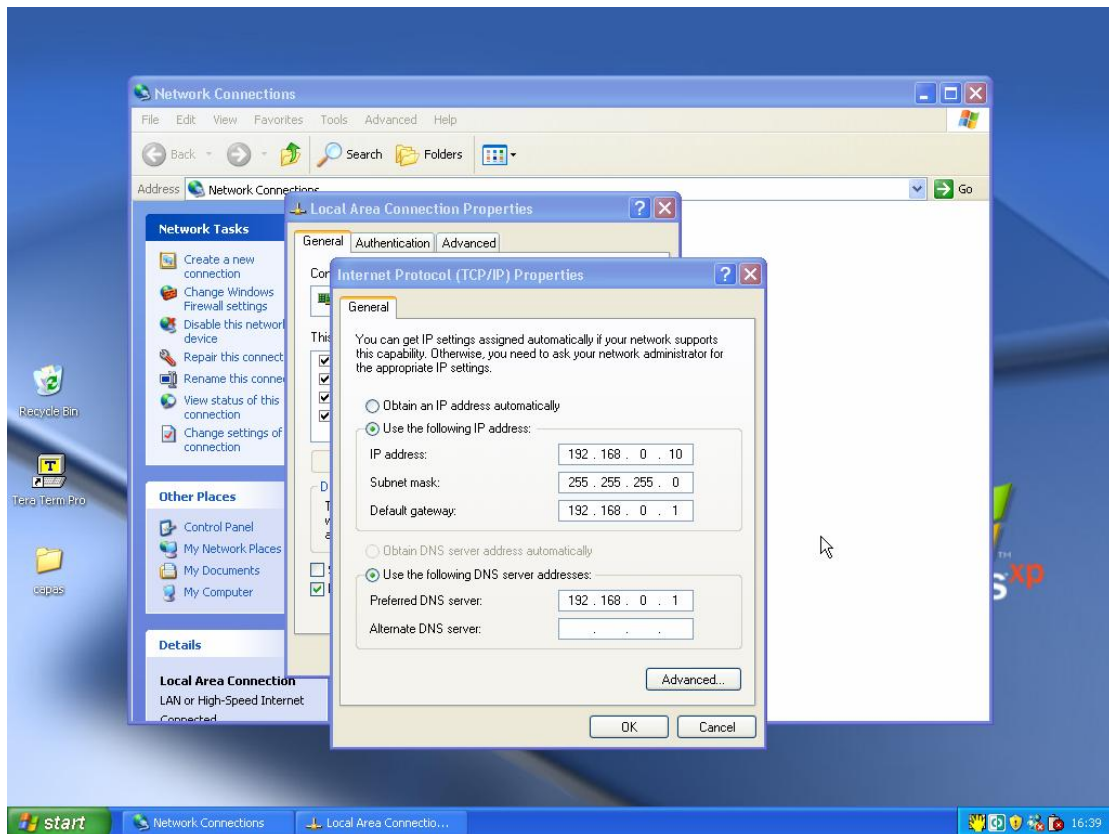

Figure 3-4. Internet Protocol (TCP/IP) Properties screen
- 5) Select **Use the following IP address** and **Use the following DNS server addresses** radio buttons. Proceed to enter the following details into the appropriate boxes. (This can be seen in Figure 3-4. Internet Protocol (TCP/IP) Properties screen)